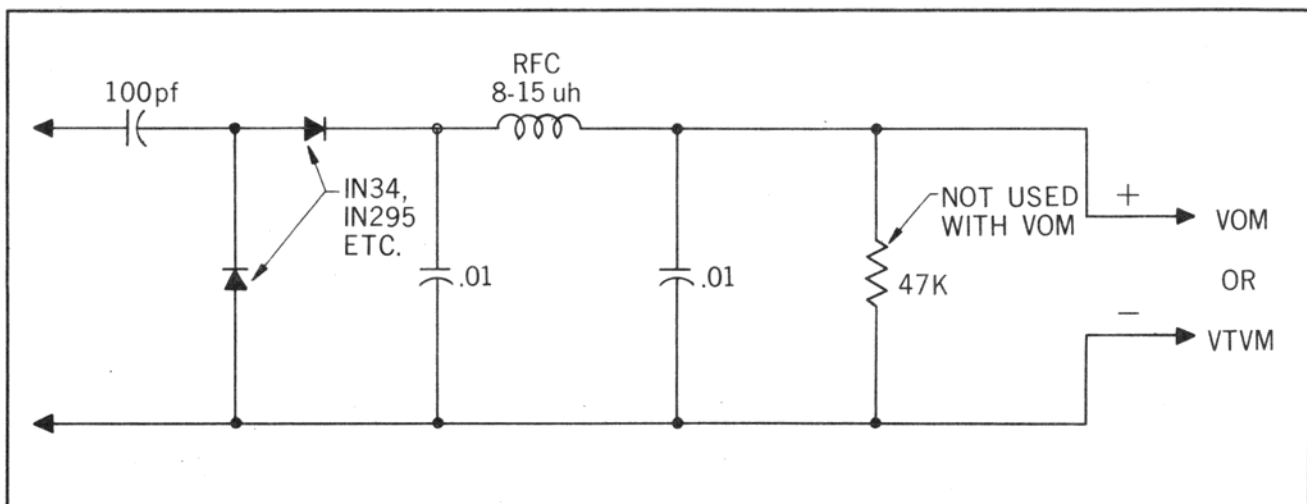

Figure 3-1 RF Probe
*If no probe is available for the multimeter, one may be fabricated as shown in Figure 3-1.